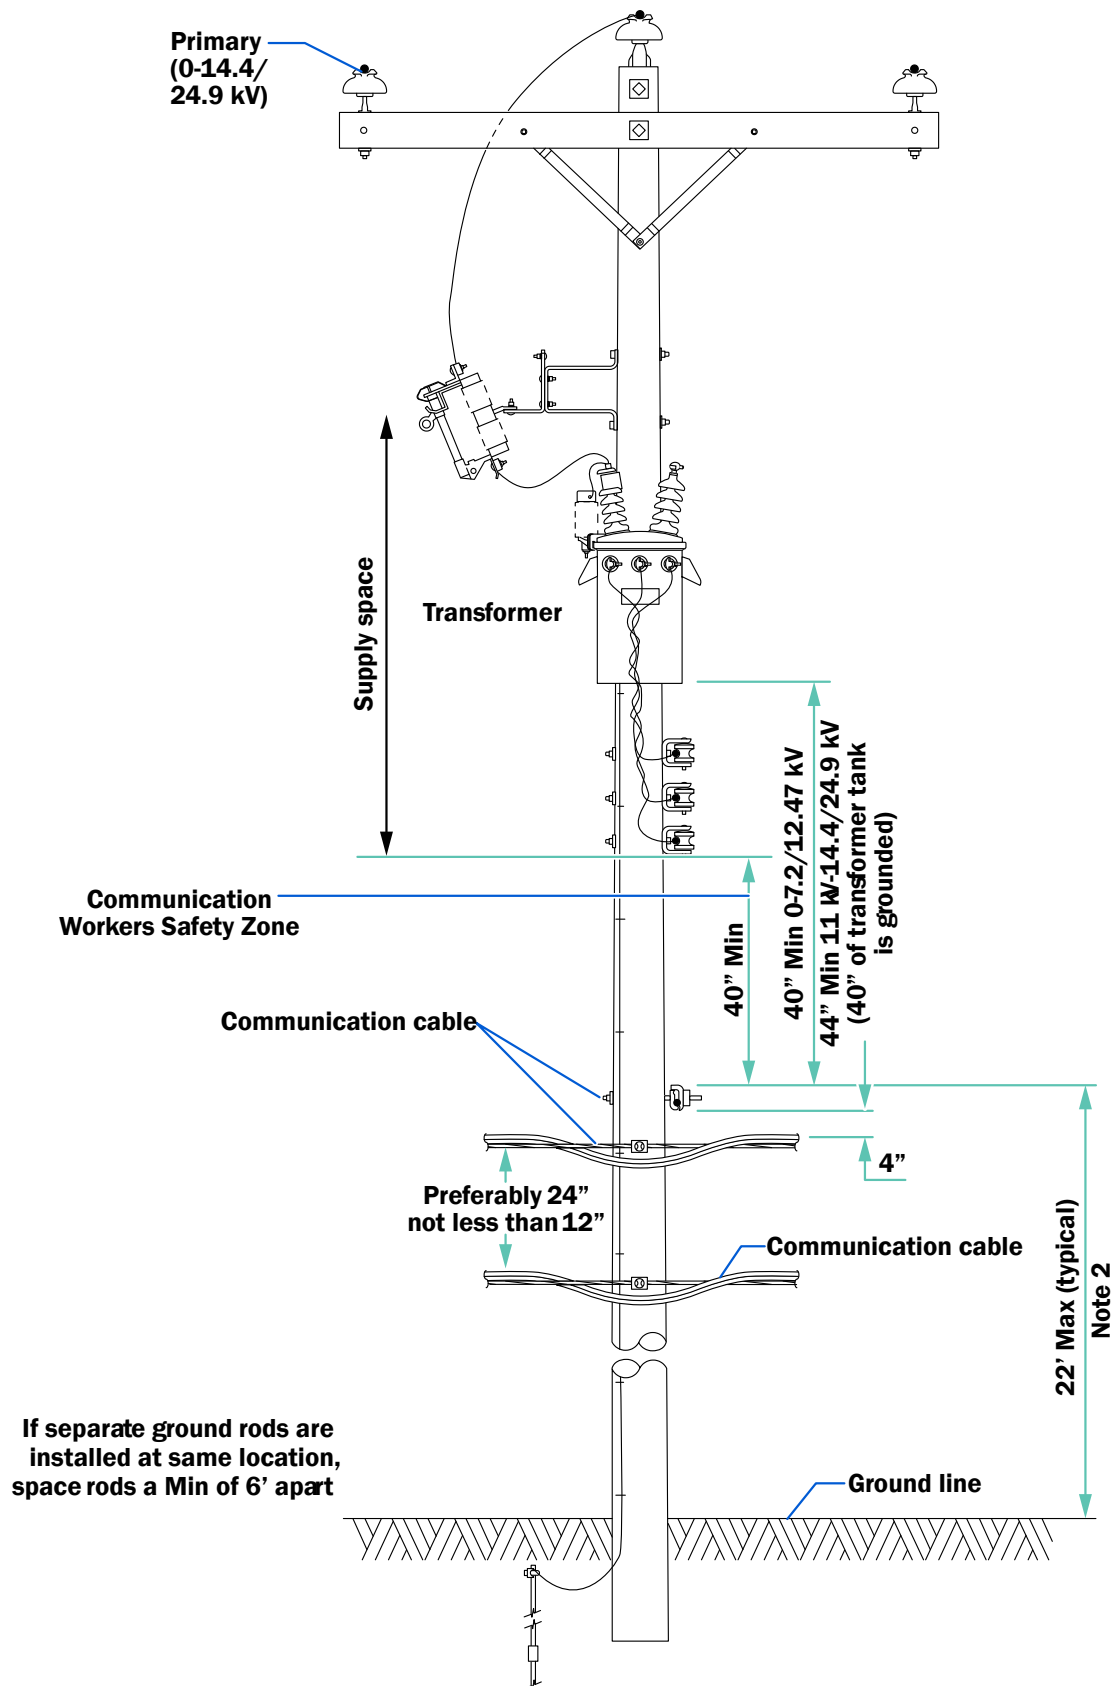

FIGURE 43-110-1 Communication Cable Spacing on Transformer or Isolator Pole—Exhibit
- Figure 43-110-1 through 43-110-5 are exhibits from the Pole License Agreement showing structure drawings and required clearances.